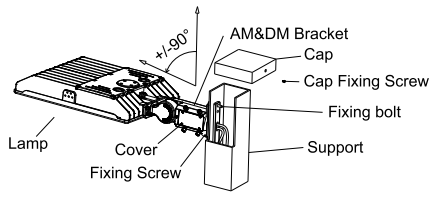

Figure 25
- Step 2: Fix the DM bracket to the square pole by bolt. Connect the power cable with pole cable, make sure good protection on the wire connection, and put the wire in the DM bracket; close the side lid and tighten it, (figure 25) then finish installation.
Notice: Adjustable angle is 0~+/-90° (Figure 25)